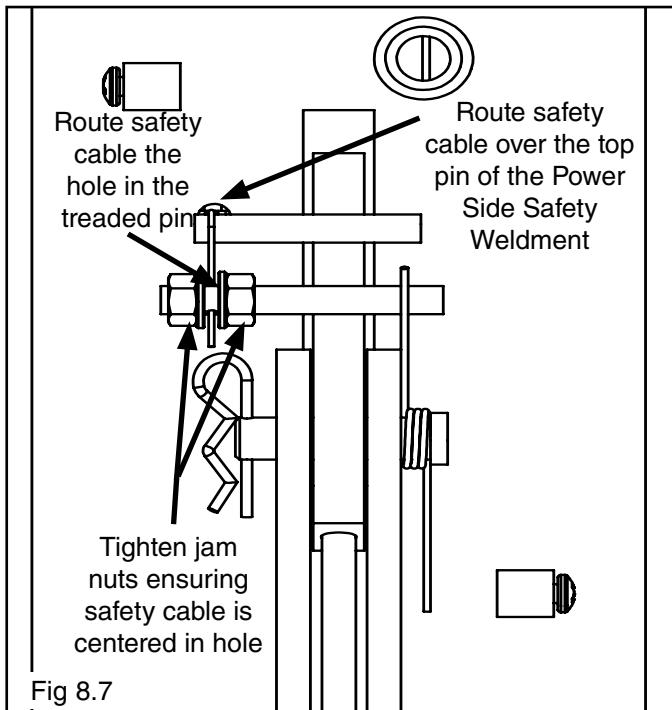

Fig 8.7
- Route the cable over the top pin on the safety handle. Insert the cable end through the hole on the threaded pin. (See Fig 8.7)
7. Pull the slack out the safety cable and keep tension on the cable as nuts are being tightened. Tighten jam nuts on either side of the cable keeping the cable centered to the hole to secure it into place. (See Fig 8.7)